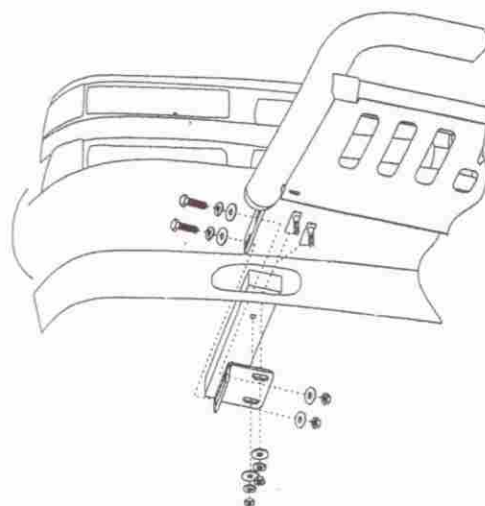

Figure 2
8. Insert Bolt Plates into front of frame so threaded bolt drops through mounting hole. Attach Mounting Brackets using the included 12mm Hex Nuts, 12mm Flat Washers, and 12mm Lock Washers (Figure 2). Do not tighten at this time.
9. Remove lower air dam and attach Bull Bar on the outer side of Mounting Brackets using the included 12-1.75mm Hex Bolts, 12mm Flat Washers, 12mm Lock Washers, and 12mm Hex Nuts (Figure 2). Do not tighten at this time.